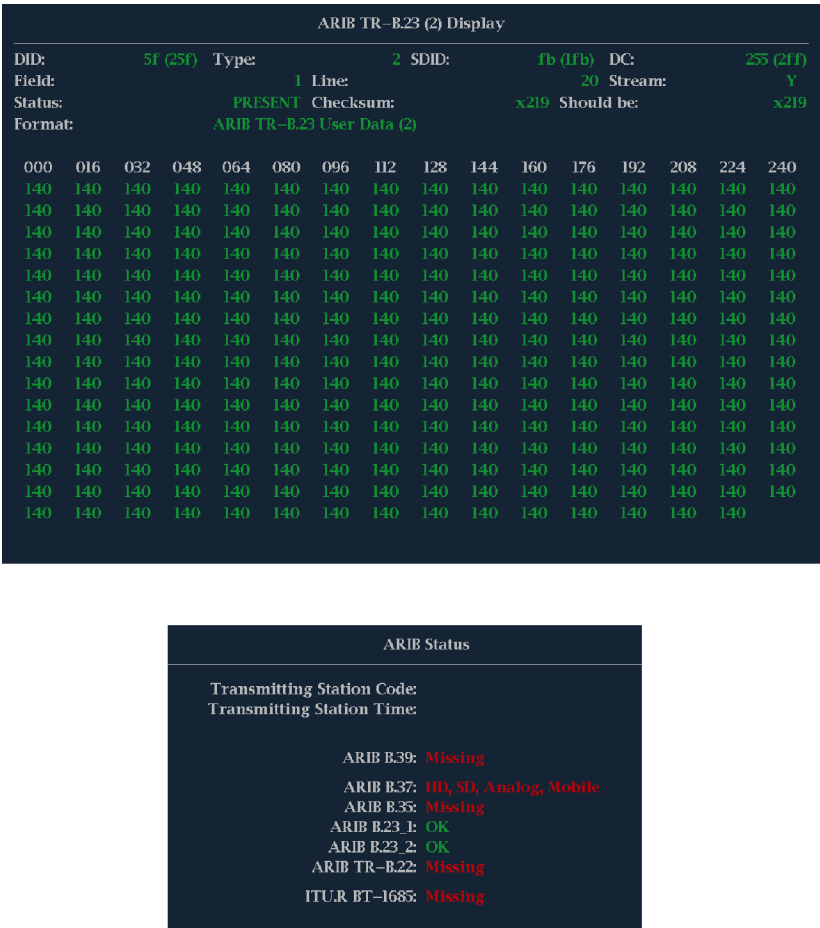

Figure 67: ARIB TR-B.23 (2) display (with the associated ARIB Status display)
The ARIB TR-B.23 (2) display shows the decoded data for video signals using ancillary data compliant with ARIB TR-B.23 (2). (See Figure 67.) When this display is selected, the instrument searches the signal for ARIB TR-B.23 (2) packets using the DID/SDID combinations defined by ARIB.